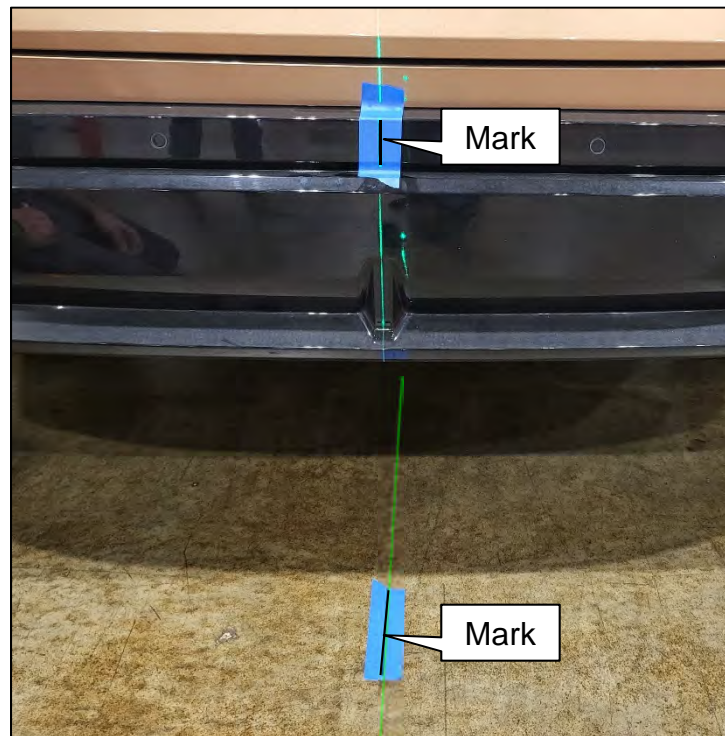

Figure 62
45. Mark the rear fascia, where shown in Figure 62, and the floor near the rear fascia.